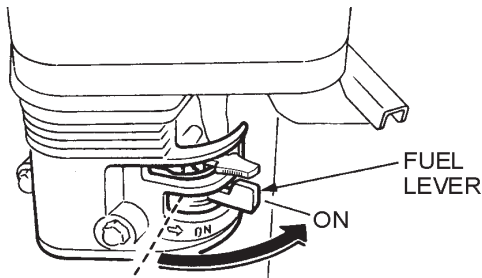

Figure 18. Engine Fuel Valve Lever (ON Position)
2. Place the engine *fuel valve lever* (Figure 18) to the "ON" position.